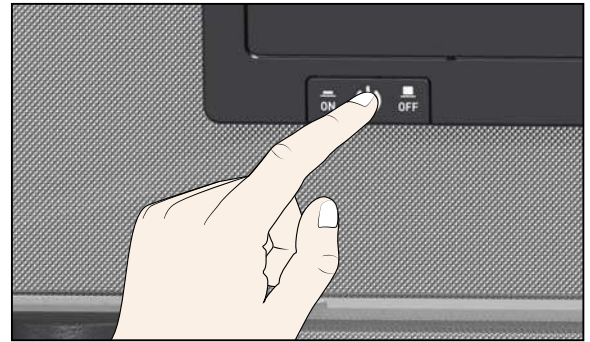

Fig. 22 Switching on the appliance
3. Switch on the VO by pressing the main switch on the front of the appliance (Fig. 22).